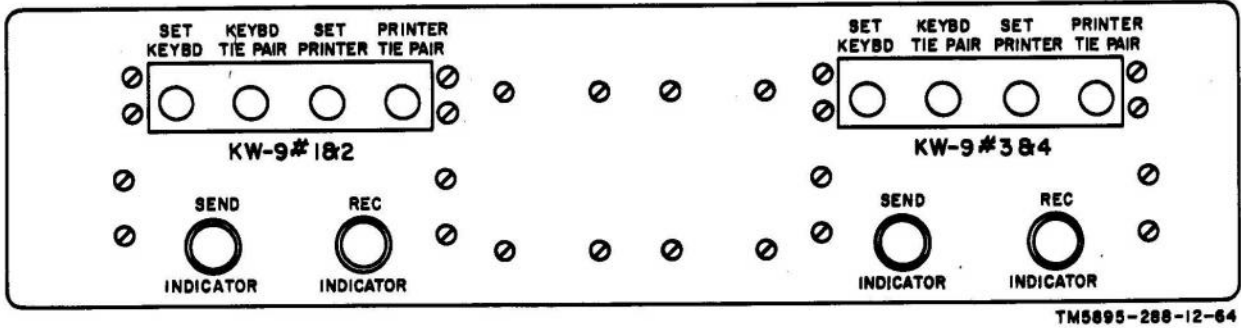

Figure 52. Control relay panel No. 1, jacks and indicators.
a. Control Relay Panel No. 1 (fig. 52).